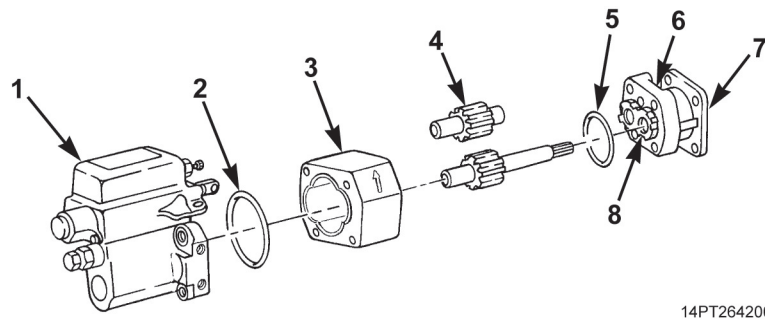

Figure 9. Gear Housing and Drive Shaft Installation.
6. Repeat Step 5 for thrust plate on pump housing (Figure 9, Item 1).
7. Install pump housing (Figure 9, Item 1) in vise with machined surface facing up.
8. Install new gasket seal (Figure 9, Item 2) in gear housing (Figure 9, Item 3) and place gear housing on pump housing (Figure 9, Item 1).
9. Install drive shaft (Figure 9, Item 5) and gearshaft (Figure 9, Item 4) into gear housing (Figure 9, Item 3). Check for free turning of gears.
10. Install new gasket seal (Figure 9, Item 6) on gear housing (Figure 9, Item 3). Apply light coat of grease to drive shaft (Figure 9, Item 5).
11. Place end housing (Figure 9, Item 7) over drive shaft (Figure 9, Item 5) and carefully press housing in place, seating gears against thrust plate (Figure 9, Item 8).